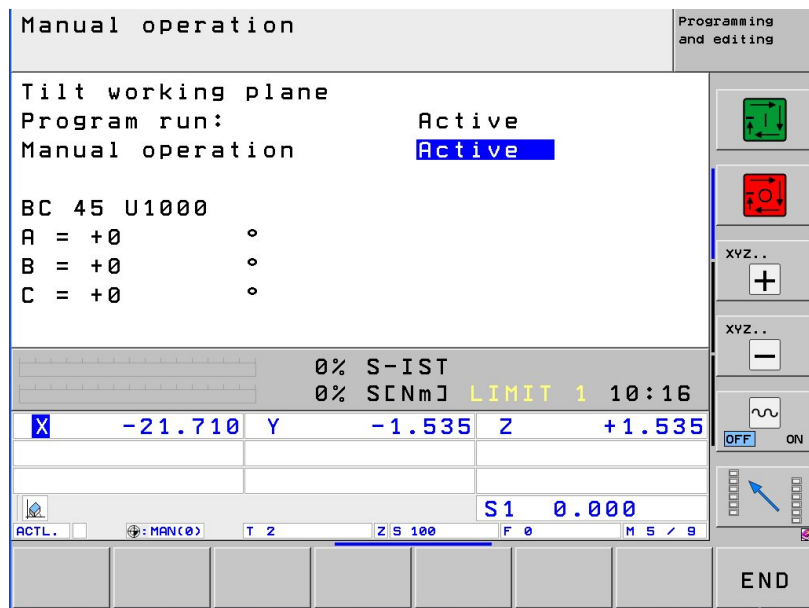

Fig. 26: 3D ROT
2. Be sure A+0, B+0, C+0 at “3D ROT” in Fig.26. Otherwise, move cursor and set +0 in each axis.